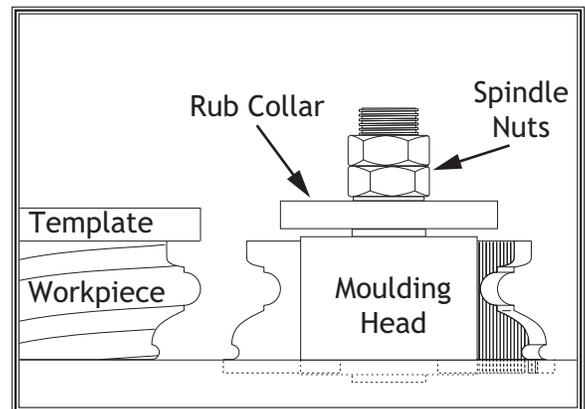

Figure 7. Rub collar positioned above moulding head.
Rub collars can be positioned on top (see **Figure 7**) or below the moulding head, depending on the type of work. Plan ahead and determine which rub collar position will work best for your needs.
3. Choose appropriate moulding knives, secure in moulding head (refer to **Installing Knives** on **Page 2**), then install rub collar and spindle nuts (see **Figure 7**).